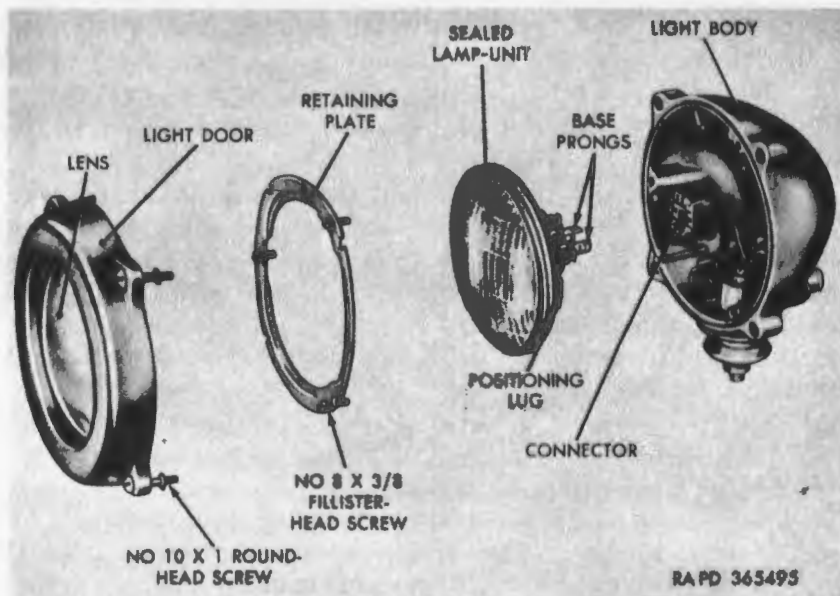

Figure 152. Service or blackout headlight—partially disassembled.
retaining rings which secure the headlight door on the light body and remove door (fig. 152). Unscrew three fillister-head screws with retaining rings securing retaining plate on light body and remove plate. Lift out sealed lamp-unit and remove connector from base prongs. Remove lamp-unit.
- (2) *Installation.* Install connector on sealed lamp-unit base prongs and align positioning lug (fig. 152) in light body. Position retaining plate over lamp-unit and secure plate to body with three No. 8 x $\frac{3}{8}$ fillister-head screws with retaining rings. Position headlight door on light body and secure with four No. 10 x 1 roundhead screws with retaining rings.